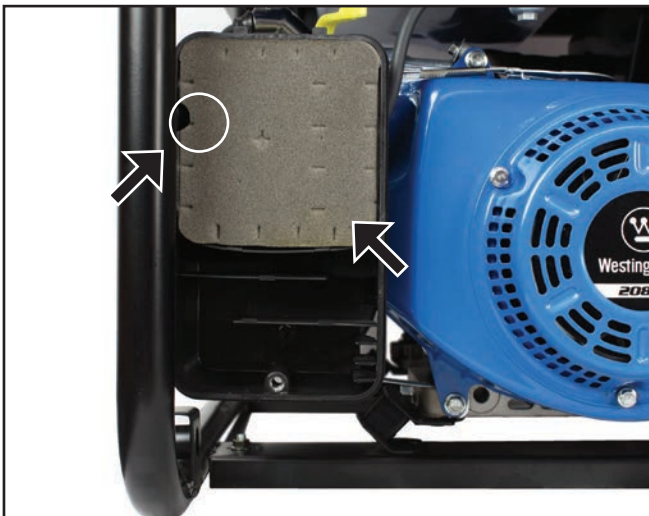
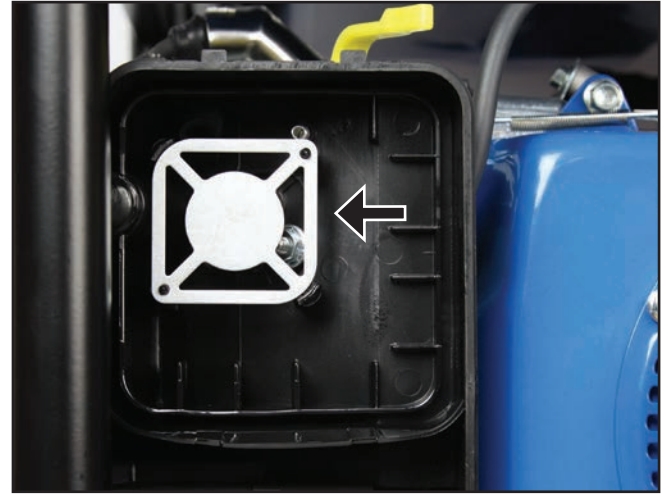

Figure 35 – Removing Air Filter Element
Figure 36 – Position of Metal Backfire Plate
5. Remove the foam air filter element while taking care to note the position of the notch (see Figure 35). The air filter element must be reinstalled later with this notch in the same position.
6. Pay special attention also to the metal backfire plate in the upper left corner of the air filter assembly box. This metal plate must be in its proper position when reinstalling the air filter element (see Figure 36).
11. Reinstall the air filter element inside the air filter assembly box. Make sure the metal backfire plate is in its proper position (see Figure 36) and the notch in the foam is correctly located (see Figure 35).